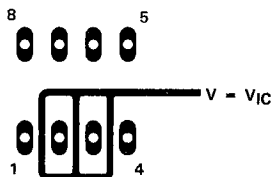

FIGURE 101. ISOLATION METAL AROUND DEVICE INPUTS (JG AND P DUAL-IN-LINE PACKAGE)
1. Isolate the device from other potential leakage sources. Use a grounded shield around and between the device inputs (see Figure 101). Leakages that would otherwise flow to the inputs will be shunted away.
Because of the extremely high input impedance and resulting low bias current requirements, the TLC271 is well suited for low-level signal processing; however, leakage currents on printed circuit boards and sockets can easily exceed bias current requirements and cause a degradation in device performance. It is good practice to include guard rings around inputs (similar to those of Figure 101 in the Parameter Measurement Information section). These guards should be driven from a low-impedance source at the same voltage level as the common-mode input (see Figure 107).